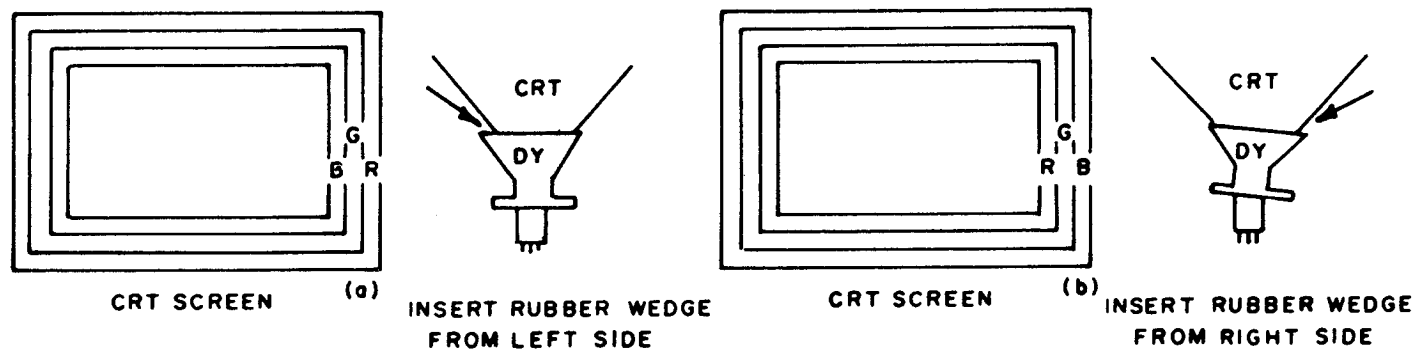

FIG. 9
- 2) Tilting the angle of the yoke sideways adjusts the parallel convergence of both horizontal and vertical lines at the edges of the screen. See Fig. 9 (a) and (b).